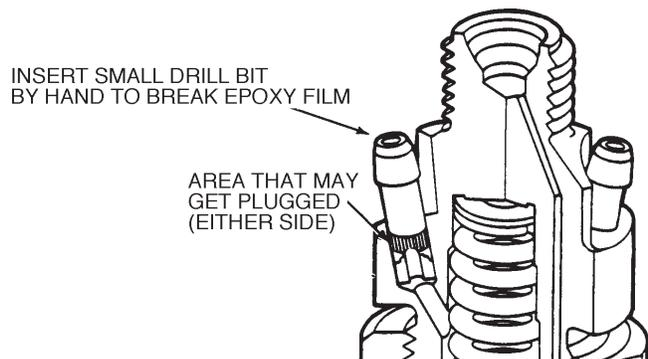

Figure 3-10. Fuel Injection Nozzle Blockage Check.
Z. 6.2L INJECTION NOZZLE RETURN HOSE (Figure 3-10)